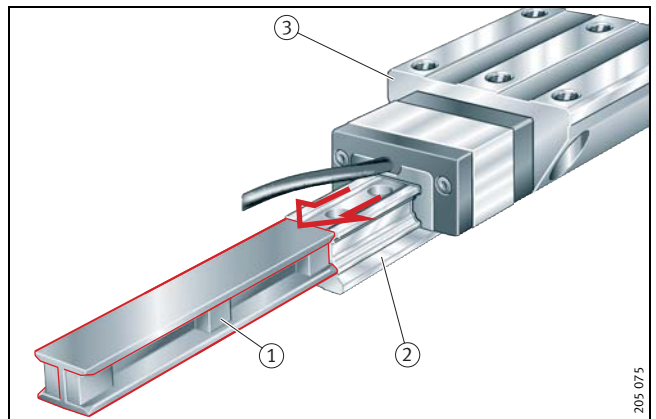
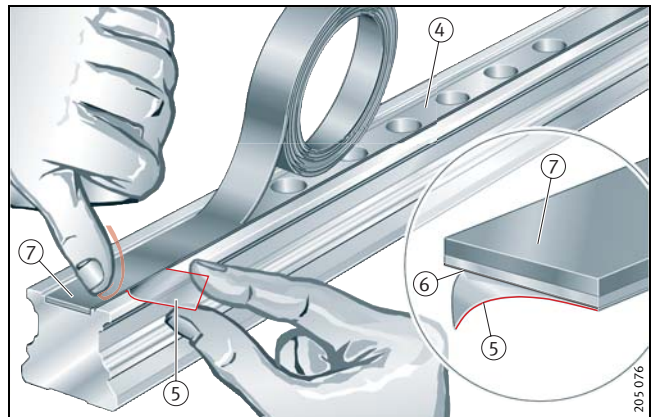

Figure 11 • Sliding the carriage off the guideway
Figure 12 • Attaching the magnetic strip
- Press the dummy guideway ① against the guideway ② (Figure 11).
- Push the carriage ③ carefully onto the dummy guideway ①.
- Carefully clean the fixing surface in the guideway slot ④; see page 6, *Guidance on adhesive fixing of magnetic and covering strips*.
- Remove the protective film ⑤ of the adhesive strip ⑥ on the magnetic strip ⑦ progressively while attaching the strip (Figure 12).
- Attach the magnetic strip ⑦ (see page 6, *Guidance on adhesive fixing of magnetic and covering strips*, see Figure 12).